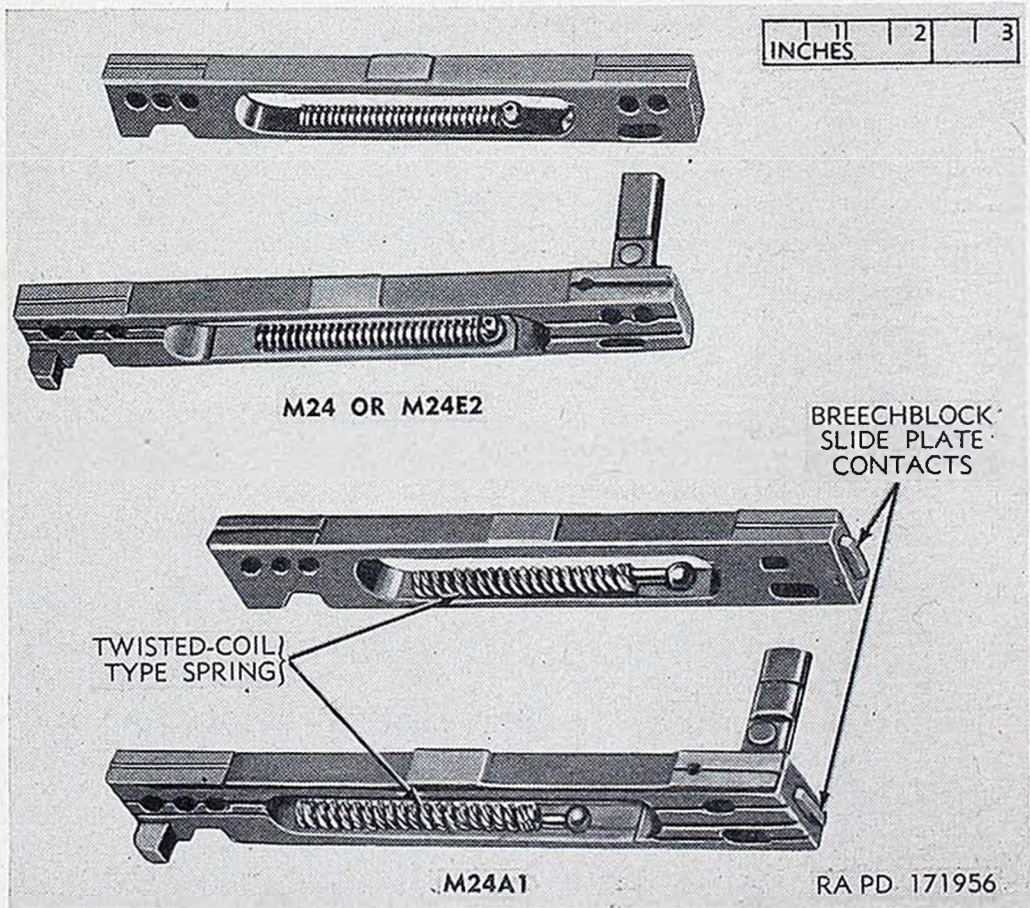

Figure 6. Comparison of breechblock slides.
- (*b*) Breechblock slide plate contacts (fig. 6) have been added to permit a different method of synchronizing guns in some installations.
- (e) The diameter of the breechblock slide spring guide and the inside diameter of the twisted-coil type guide spring have been reduced, as shown in figure 6.
- (2) *Gas cylinder group.*